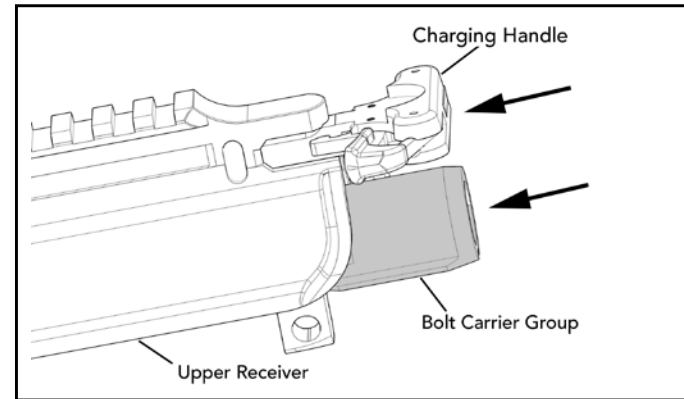

Fig. 50 – Completing installation of the bolt assembly into the upper receiver
- j. Push the charging handle and bolt group completely into the upper receiver until the locking lugs on the bolt head engage the locking on the barrel extension and the latch on the charging handle engages the oval locking surfaces on either the left or right hand sides of the upper receiver. The latch can be mounted on either the left or the right hand side of the charging handle (Fig. 50).